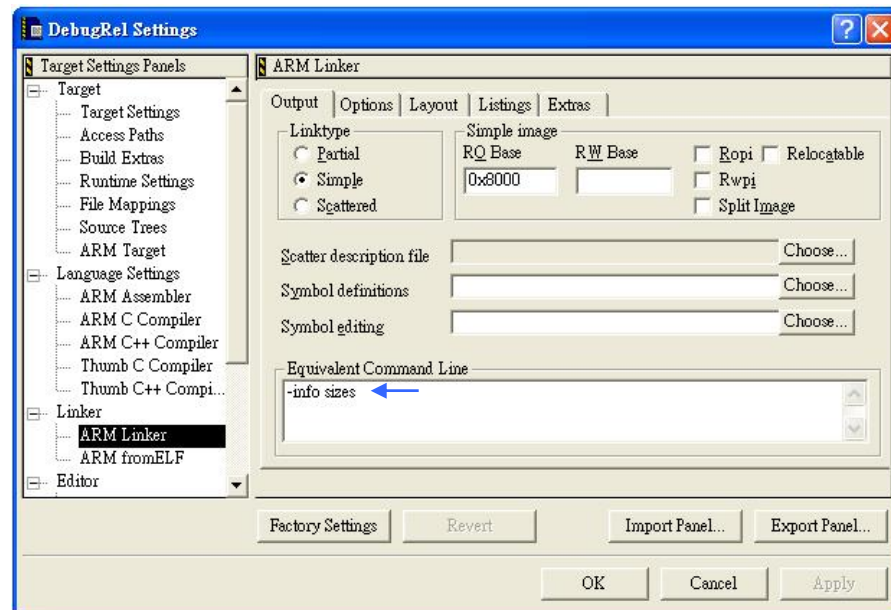

Figure 23. DebugRel Settings for ARM Link output
- 2.1 Change the ARM Linker option from **-info totals** to **-info sizes** in Equivalent Command Line, as shown in Figure 23.